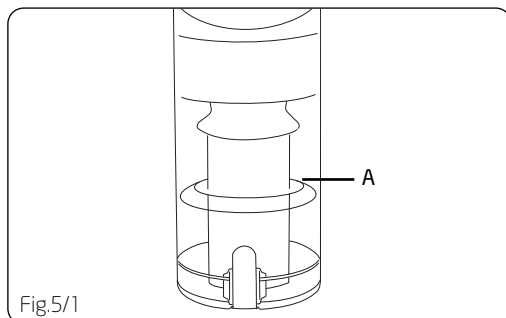

Fig.5/1
Empty the dirt container before the dirt reaches the fill line (A) (Fig.5/1).